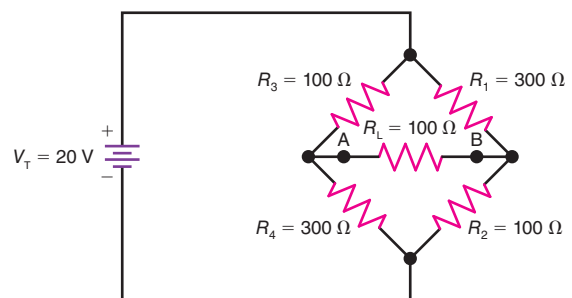

Figure 8-22
8.14 In Fig. 8-22, draw the Thevenin equivalent circuit with respect to terminals A and B (mentally remove R_L).
8.15 Using the Thevenin equivalent circuit for Fig. 8-22, calculate the values for I_L and V_L .